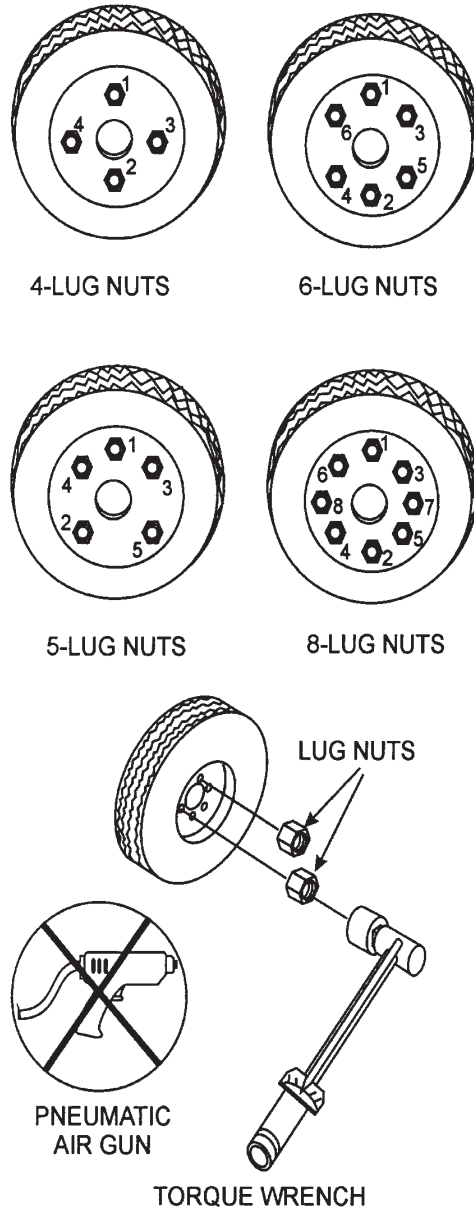

Figure 66. Wheel Lug Nuts Tightening Sequence
12. **Lug Nuts** — Used to secure the wheel to the wheel hub. Always use a torque wrench to tighten down the lug nuts. See Table 16 and Figure 66 for lug nut tightening and sequence.
2. Torque all lug nuts in sequence (see Figure 66). **DO NOT** torque the wheel lug nuts all the way down. Tighten each lug nut in 3 separate passes as defined by Table 16.